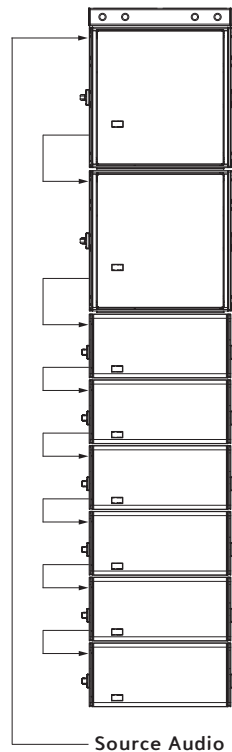

Figure 1: Flown Mixed Array
- Flown mixed arrays of LEOPARDS and 900-LFCs (Figure 1)